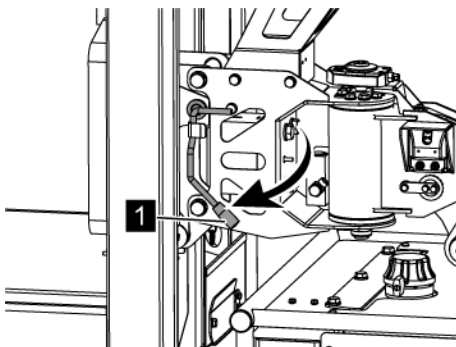

Fig. 158: Fastening the basket bolt
3. Turn the basket bolt (Fig. 158/1) 90° clockwise so that it engages in place.